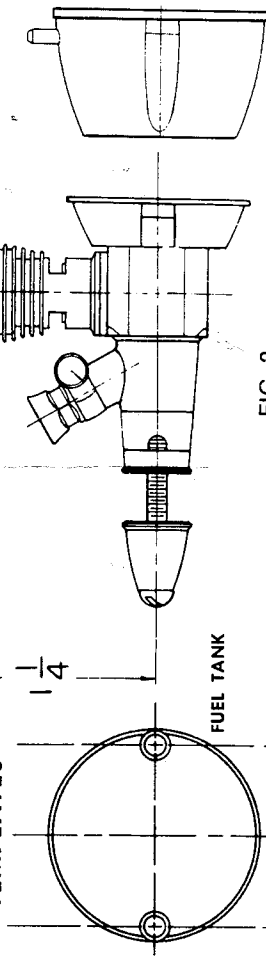

FIG. 2
1. Mount the engine in the plane, or if you want to give it some running first, mount it on a suitable mount. Do not hold the engine directly in a vise. Use the appropriate template from Fig. 2 to drill mounting holes.
1. Close the carburetor needle valve. B - Fig. 2, by turning it clockwise until it stops. Do not force it.